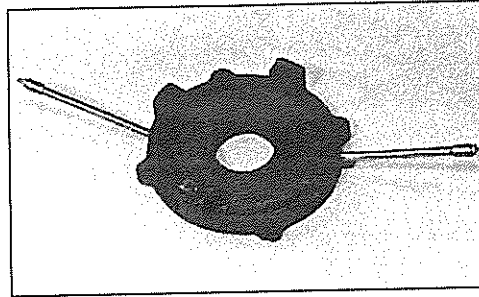

Figure 6-47
1. Remove the filler and drain grease pipes and the grease plugs from outer bearing cap (figure 6-47).
5. Inspect the mounting pads for the PMG stator and exciter stator. Be sure they are smooth, clean, and free of any burrs or rust that could interfere with proper alignment (figures 6-47 and 6-48).